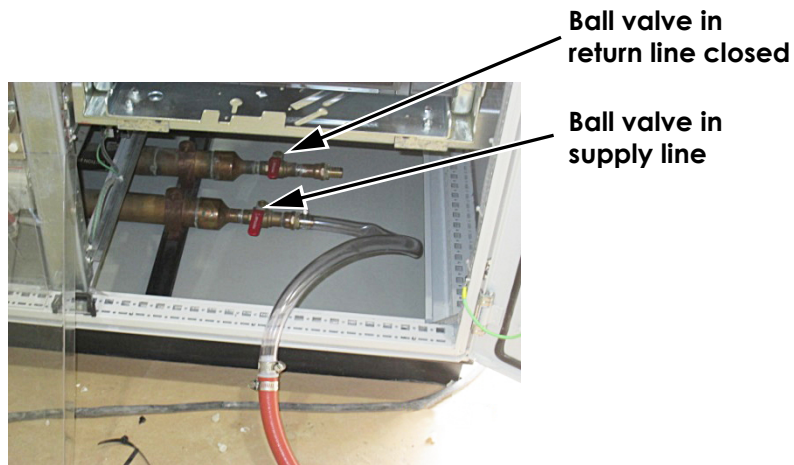
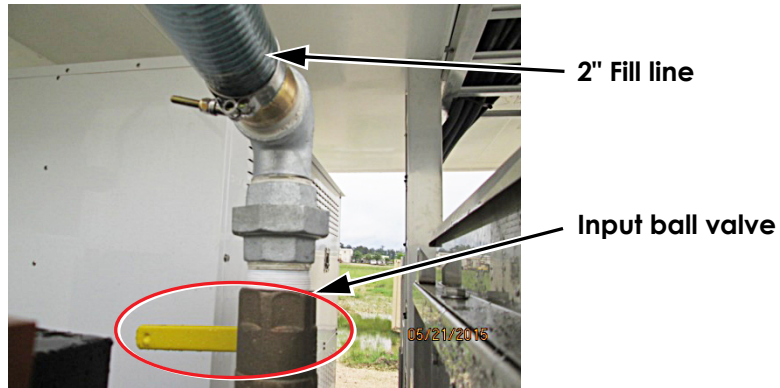

Figure 10: The supply line is the most forward connection in the VFD lineup
Figure 11: Input ball valve closed
14. Ensure that the ball valve in the return line at the low point drain connection is closed. (The return line is the furthest rearward position in the cabinet.) Connect a transparent tube to the low point drain connection of the supply line. The supply line is the most forward connection in the cabinet. See Figure 10.
15. Route the supply line back to the supply tank. Stabilize the end of the hose with zip ties to keep pressure from blowing it out of the tank and then open the ball valve at low point drain connection of the supply line. See Figure 9 on page 6 and Figure 10 above.
16. Ensure the input ball valve at the heat exchanger riser is in the closed position and connect the fill line input from the supply tank to the 2" NPT union connection at the heat exchanger riser. See Figure 9 on page 6 and Figure 11.
33. Once a translucent fluid is observed throughout the entire circuit, close the low point drain connection (see Figure 10 on page 7) and then fill connection ball valve (see Figure 11 on page 8).